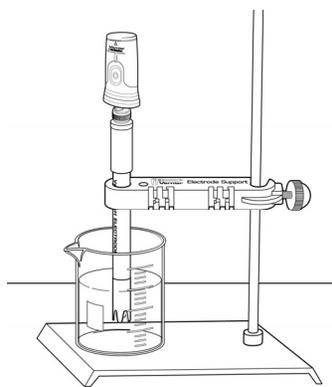

Figure 4
3. Place the sensor tip into a beaker containing your sample. It is recommended that you use a utility clamp or electrode support to fasten the Go Wireless pH to a ring stand, as shown in Figure 4. **Note:** To collect titration data, tap the wrench in the upper right corner of Graphical Analysis, and select Start Titration.